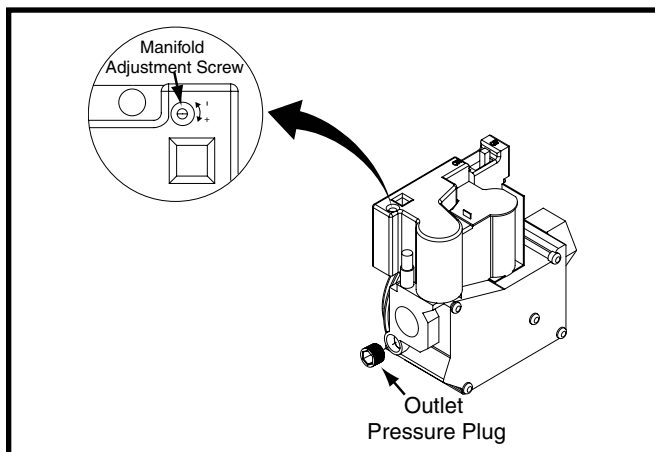

Figure 4. Outlet Pressure Plug and Manifold Adjustment Screw
- c. Remove the outlet pressure plug from the outlet side of the gas valve (Figure 4, page 4) with a 3/16 inch Allen wrench.
- a. Using a small screwdriver, slowly turn the adjustment screw (Figure 4) to obtain the appropriate manifold pressure.